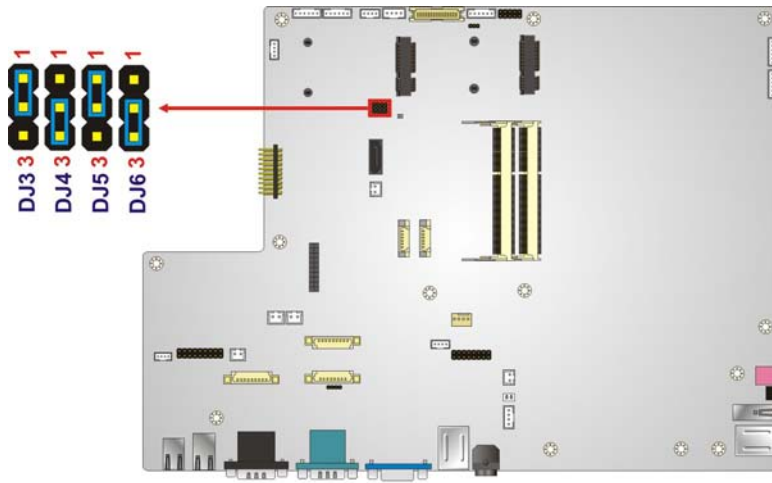

Figure 5-36: LCD panel Selection Jumper Location
- Jumper Location: See **Figure 5-36**